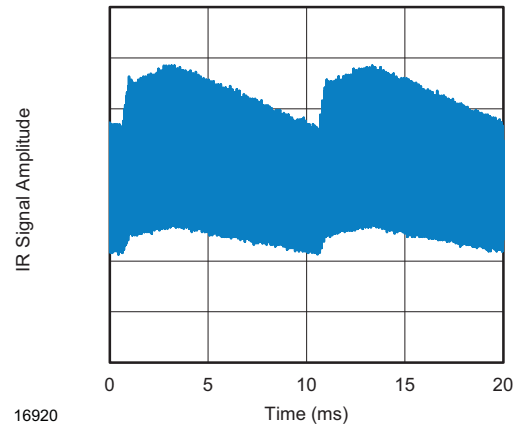

Fig. 13 - IR Disturbance from Fluorescent Lamp with Low Modulation
- Strongly or weakly modulated patterns from fluorescent lamps with electronic ballasts (see Fig. 13 or Fig. 14)
| Suppression of interferencefrom fluorescent lamps                            | Mild disturbance patternsare suppressed (example:signal pattern of Fig. 13) | Complex disturbance patternsare suppressed (example:signal pattern of Fig. 14) | Critical disturbancepatterns are suppressed,e.g. highly dimmed LCDs |